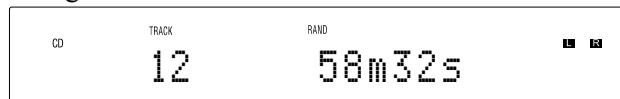

Figure 27
1. With the MCD350 in the STOP ■ Mode press the RANDOM Push-button. The word RAND will be indicated in the Front Panel Display. Refer to figure 27.